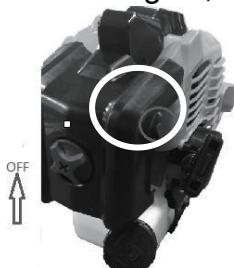

Fig.14
- 3) To start a cold engine, move the choke lever to the  position. In order to restart a warm engine, leave the choke lever in the run position. (fig.14)